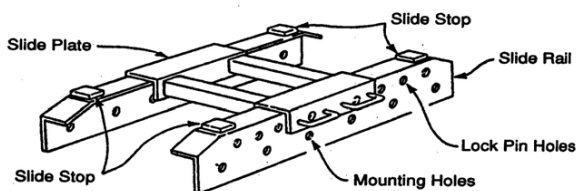

Figure 22: Typical older style sliding fifth wheel assembly
- Install sliding fifth wheel assemblies (see Figures 22 and 23) in accordance with the assembly and vehicle manufacturers' instructions, and if unavailable with the instructions below.